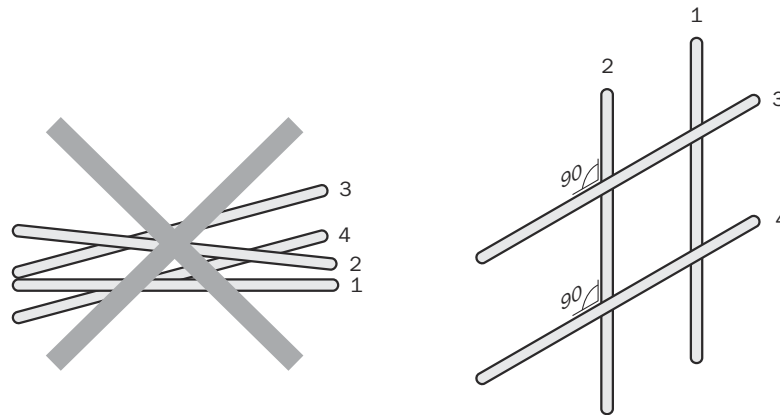

Figure 10: Cross cables at right angles
- ▶ Cables in groups 1, 2 and 3, 4 must be crossed at right angles, see figure 10.